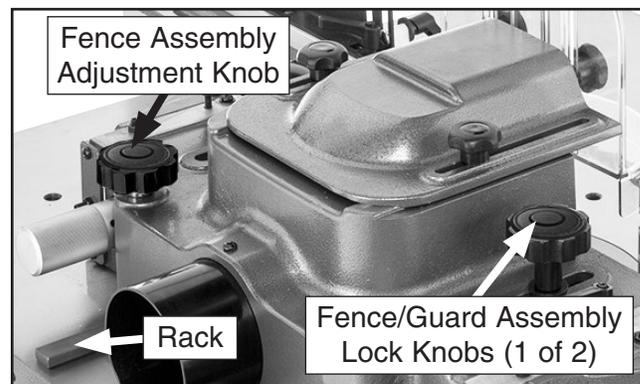

Figure 63. Fence rack and assembly location.
2. Unlock guard and fence assembly from table by loosening lock knobs pictured below in **Figure 63**.